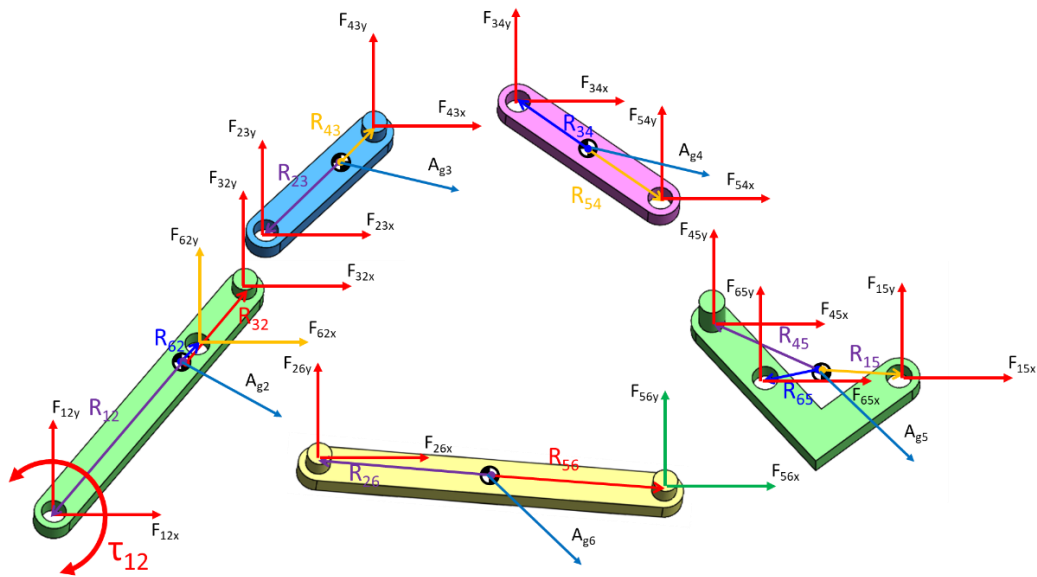

Figure 3 Dynamic force analysis of a mechanism (free-body diagrams)
- 4) Find the values of  $A_{g2}$   $A_{g3}$   $A_{g4}$   $A_{g5}$   $A_{g6}$  of links 2, 3, 4, 5, and 6 (see Figure 3).